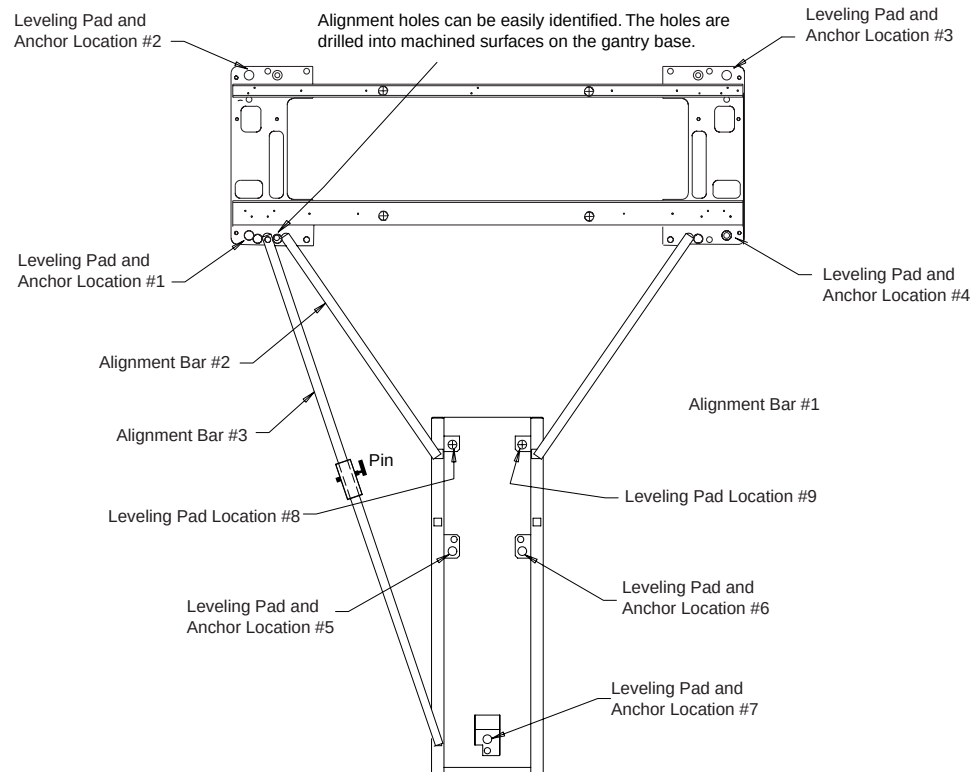

Figure 1-16 Table Base Leveling Pad and Anchor Locations
Adjuster locking ring at location #1 (see Figure 1-16) must be removed to properly position the alignment bars. Also, observe the following:
- 2.) The short alignment bars, #1 and #2, are identical and interchangeable. Refer to Figure 1-16:
- Do NOT rest the level on the radiused surface on alignment bar #3. (See Figure 1-16.)